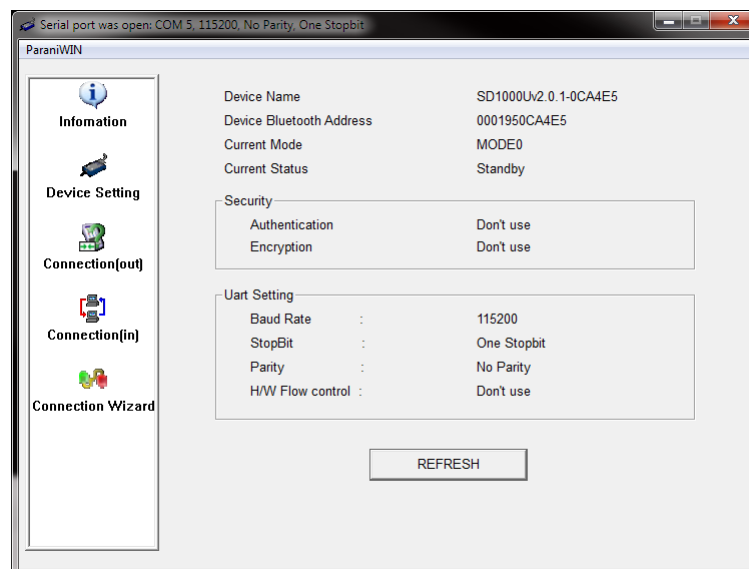

Figure 10: SD1000U Device Information Settings Page
- 5) Open an instance of ParaniWIN and choose the COM port of the SD1000U. Set **BaudRate** to *115200*, **Parity** to *None*, and **StopBit** to *1*. Click **OK**. ParaniWIN will connect and display the Device Information page as shown in Figure 10.